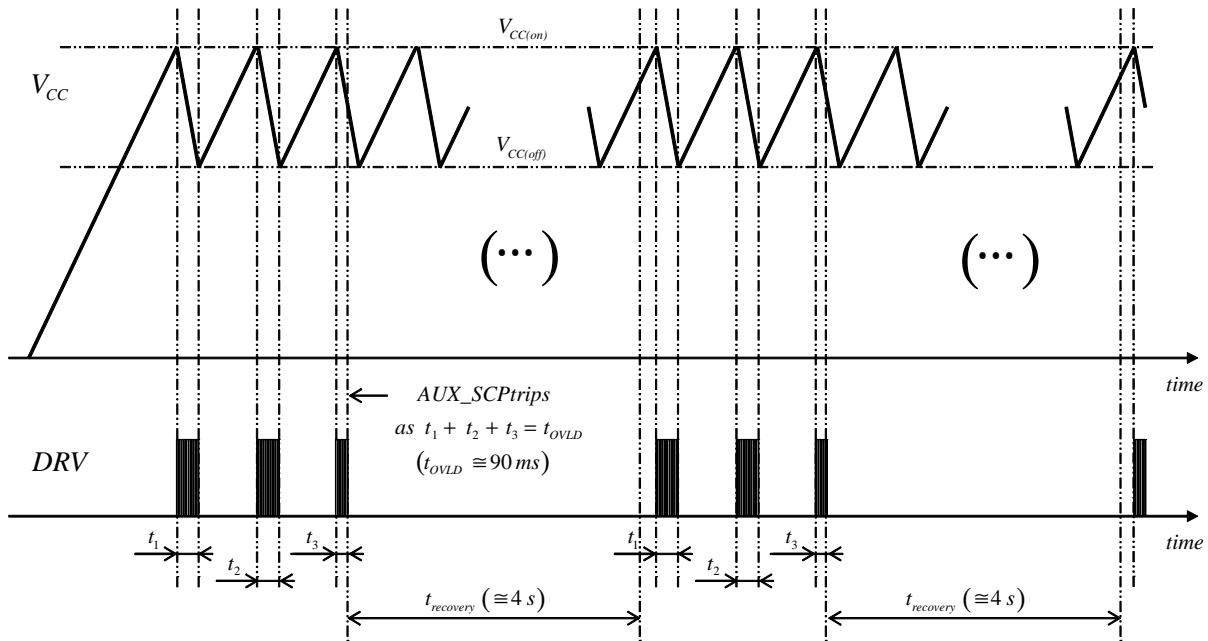

Figure 59. Start-up Sequence in a Load Short-circuit Situation (auto-recovery version)
- If the load is shorted, the circuit will operate in hiccup mode with  $V_{\text{CC}}$  oscillating between  $V_{\text{CC}(\text{off})}$  and  $V_{\text{CC}(\text{on})}$  until the AUX\_SCP protection trips (AUX\_SCP is triggered if the ZCD pin voltage does not exceed 1 V within a 90-ms operation period of time thus indicating a short to ground of the ZCD pin or an excessive load preventing the output voltage from rising). The NCL30085A latches off in this case. With the B version, the AUX\_SCP protection forces the 4-s auto-recovery delay to reduce the operation duty-ratio. Figure 59 illustrates a start-up sequence with the output shorted to ground, in this second case.